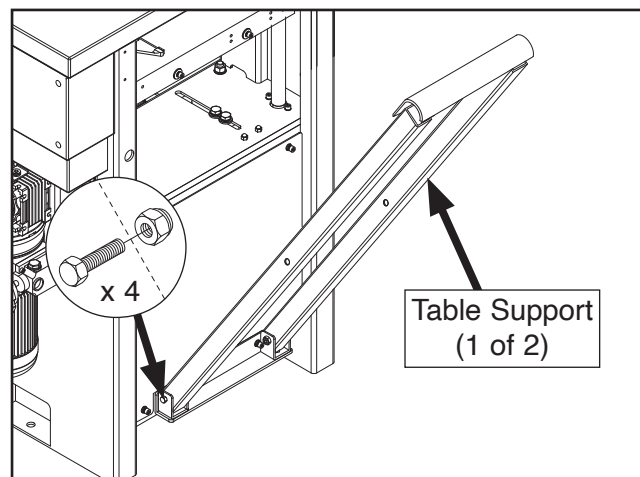

**Figure 9.** Table support attached to pivot brackets (outfeed end shown).
3. Attach (2) table supports to pivot brackets with (4) M10-1.5 x 60 hex bolts and (4) M10-1.5 lock nuts (see **Figure 9**).